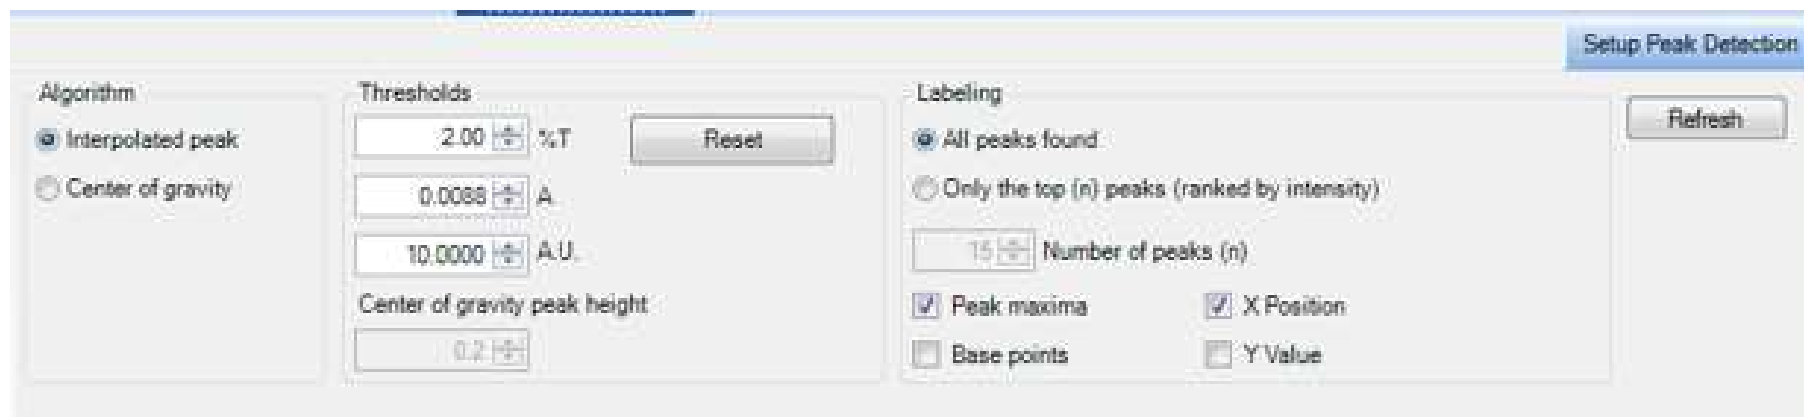

Figure 12. Setup Peak Detection.
4. Go to the Setup Panel ( Figure 2) < Peak detection. A Setup appears with the parameters that control the labels of the peaks, you can modify them as you wish, the default values are shown in Figure 12. Then you can click labels (the main "process tabs" are shown above the spectrum window) to label the peaks and save the spectrum with the labels in a Word document. Take into account that when a high Force Gauge is applied (usually 80 or higher) a small noise in the 2000  $\text{cm}^{-1}$  region may appear, this is due to the ATR crystal, it does not belong to your sample (Figure 11).